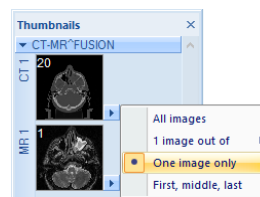

Figure 30 – One image only display (all separated series mode)
- **One image only** - only the first image of each series of the selected study is displayed (see Figure 30).